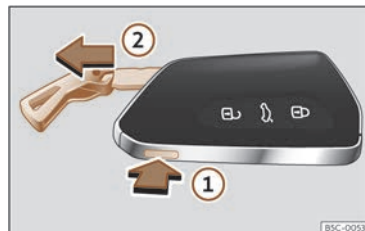

Fig. 65 Vehicle key: remove the key shaft.
- Press the >>> Fig. 65 ① button to release the ring from the key fob and remove the key blade ②. Pressing lightly on the ring leaves it fixed as a key fob.
- Press the >>> Fig. 65 ① button to unlock. Press and hold button ① and at the same time pull on the ring in the direction of arrow >>> Fig. 65 ② to completely remove the key shaft.